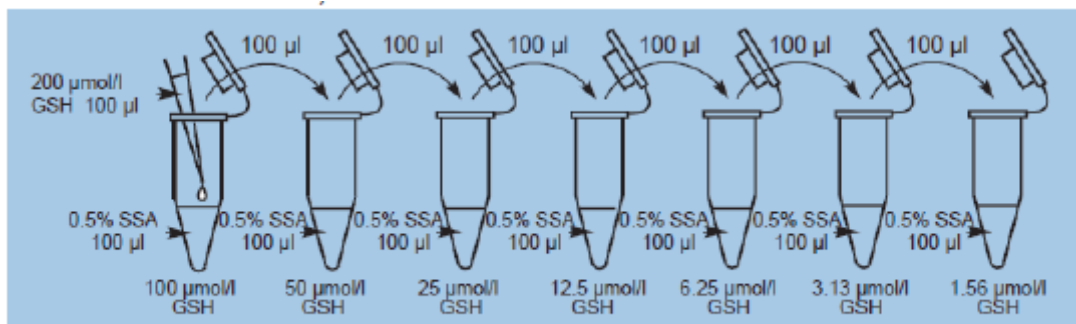

Fig. 2 Preparation of GSH standard solutions.
2) Dilute 100  $\mu\text{L}$  of 200  $\mu\text{mol/L}$  GSH calibrator solution by serial dilution with 100  $\mu\text{L}$  of 0.5% SSA in plastic tubes as indicated in Fig. 2.